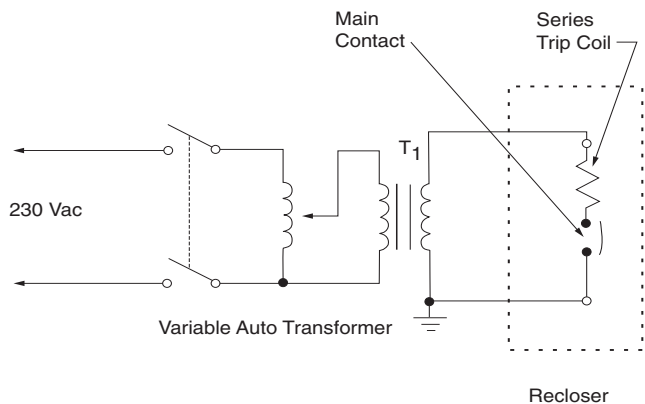

Figure 11. Test circuit diagram
- A. If the recloser is performing too many operations to lockout, turn the piston shell counterclockwise a little off the pump piston (Figure 11).
- B. If the recloser is performing too few operations to lockout, turn the piston shell clockwise a little, onto the pump piston (Figure 11).